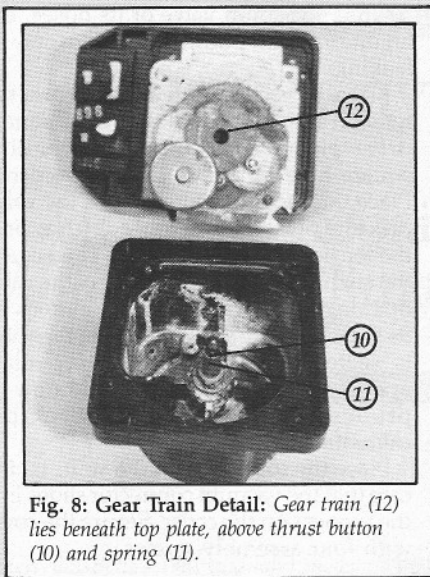

Fig. 8: Gear Train Detail: Gear train (12) lies beneath top plate, above thrust button (10) and spring (11).
Lift the top plate from the upper housing. As you lift out the drive assembly (Fig. 8), note the location of the two drive flanges (9), thrust button (10) and thrust button spring (11). The flanges, button and spring may stick to the grease on the main drive gear (12).